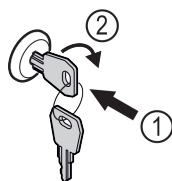

Fig. 156 Example illustration
- ▶ Insert key Fig. 156 (1).
- ▶ Turn key clockwise by 90° Fig. 156 (2).